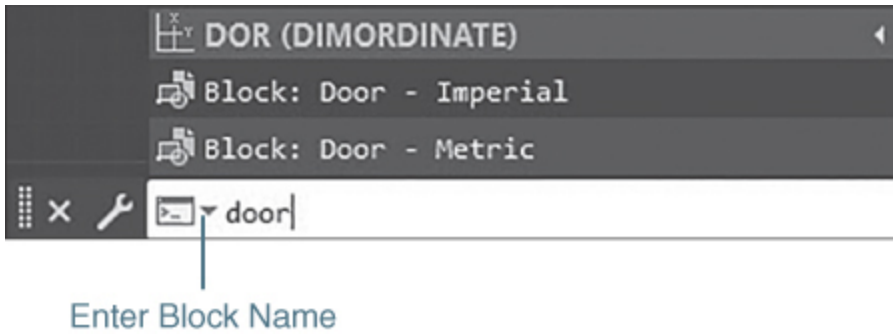

Figure 1-38
- **Content insertion** You can use the command line to access layers, blocks, hatch patterns/gradients, text styles, dimension styles, and visual styles and insert them directly from a suggestion list (see Figure 1-38).